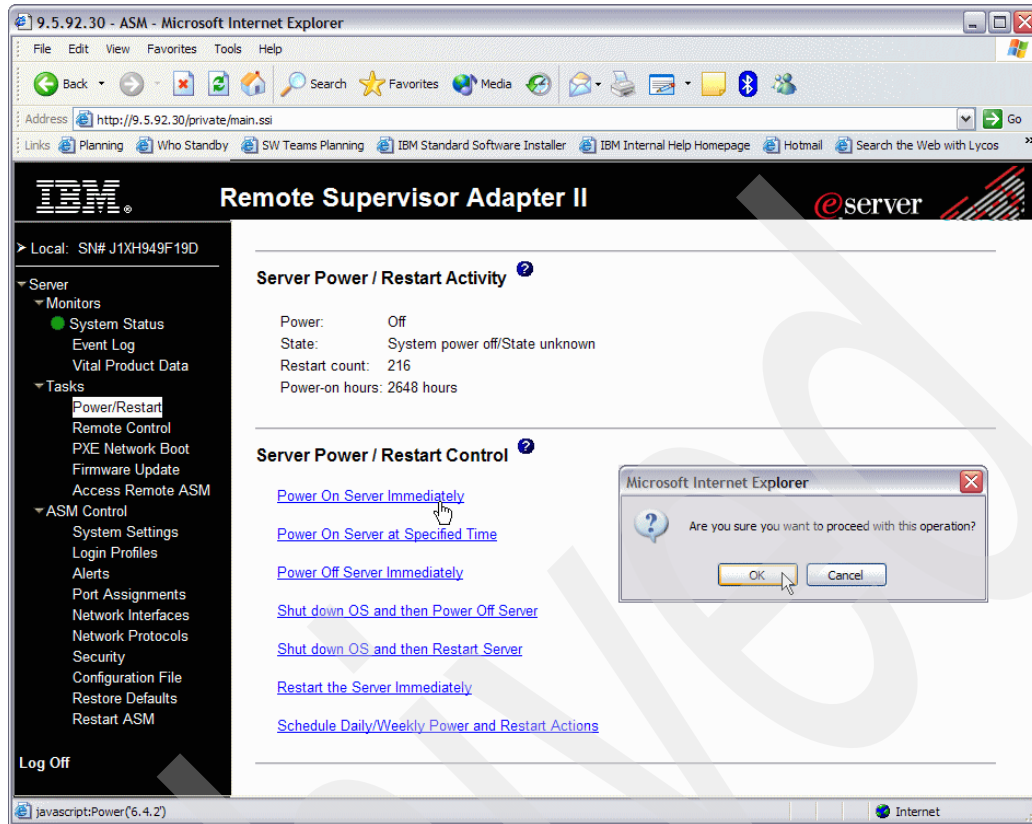

Figure 6-74 Power On xSeries in RSA II
- e. The window refreshes and the Power status is **ON**. See Figure 6-74 on page 224.